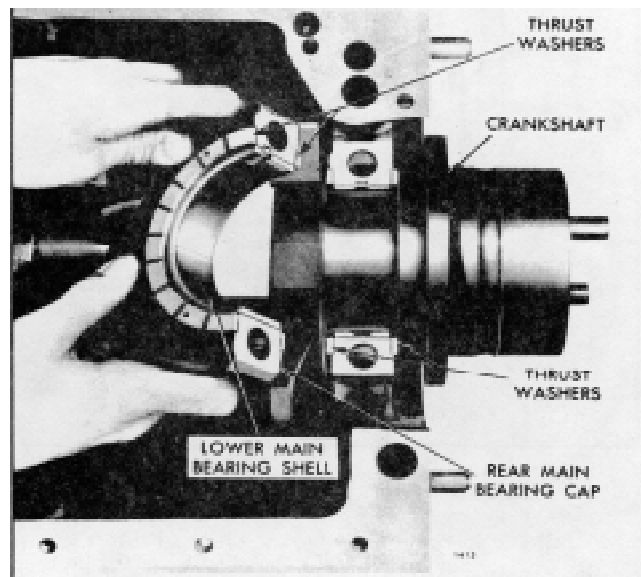

Fig. 8. Crankshaft Thrust Washers in Place
3. Assemble the crankshaft thrust washers (Fig. 8) before installing the rear main bearing cap. Clear both halves of each thrust washer carefully and remove any burrs from the washer seats - the slightest burr or particle of dirt may decrease the clearance between the washers and the crankshaft beyond the specified limit. Slide the upper halves of the thrust washers into place. Then assemble the lower halves over the dowel pins in the bearing cap.